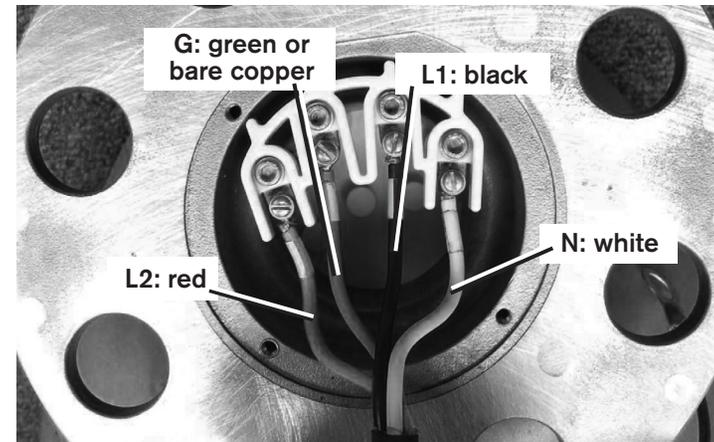

Fig. 3 Wire run to the yaw connection (120/240 V, 60Hz, Split Ph and 120/208V, 60 Hz, 3 Ph).
The largest wire size that may be connected to Skystream's yaw terminals is 6 mm² (# 8 AWG), refer to **Fig. 3**. If a larger wire is required because of the installation distance; Southwest Windpower recommends installing a disconnect switch box close to the base of the tower and running 6 mm² wire between Skystream and the disconnect box. Larger wire may then be run from the switch box to the electrical utility panel.
- Pass cable through strain relief cover so approximately 1 Inch (2.5 cm) of cable sheath protrudes through as shown in **Fig. 3**. Tighten strain relief clamp to secure cable.
- **120/240 V, 60 Hz, Split Phase and 120/208 V, 60 Hz, 3 Phase systems:** Connect the red, black and white wires to the corresponding color coded terminals on Skystream yaw. Connect green or bare copper wire to the green terminal. Tighten wire terminal screws to 20-22 In lb (2.3-2.5 N-m). See **Fig. 3**.